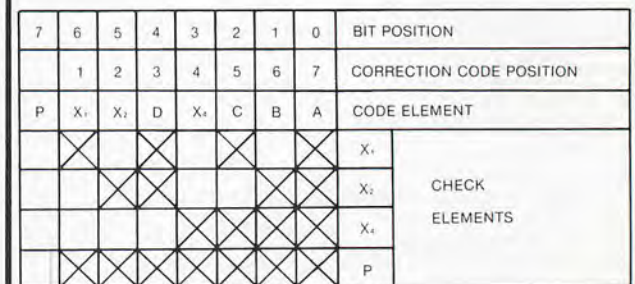
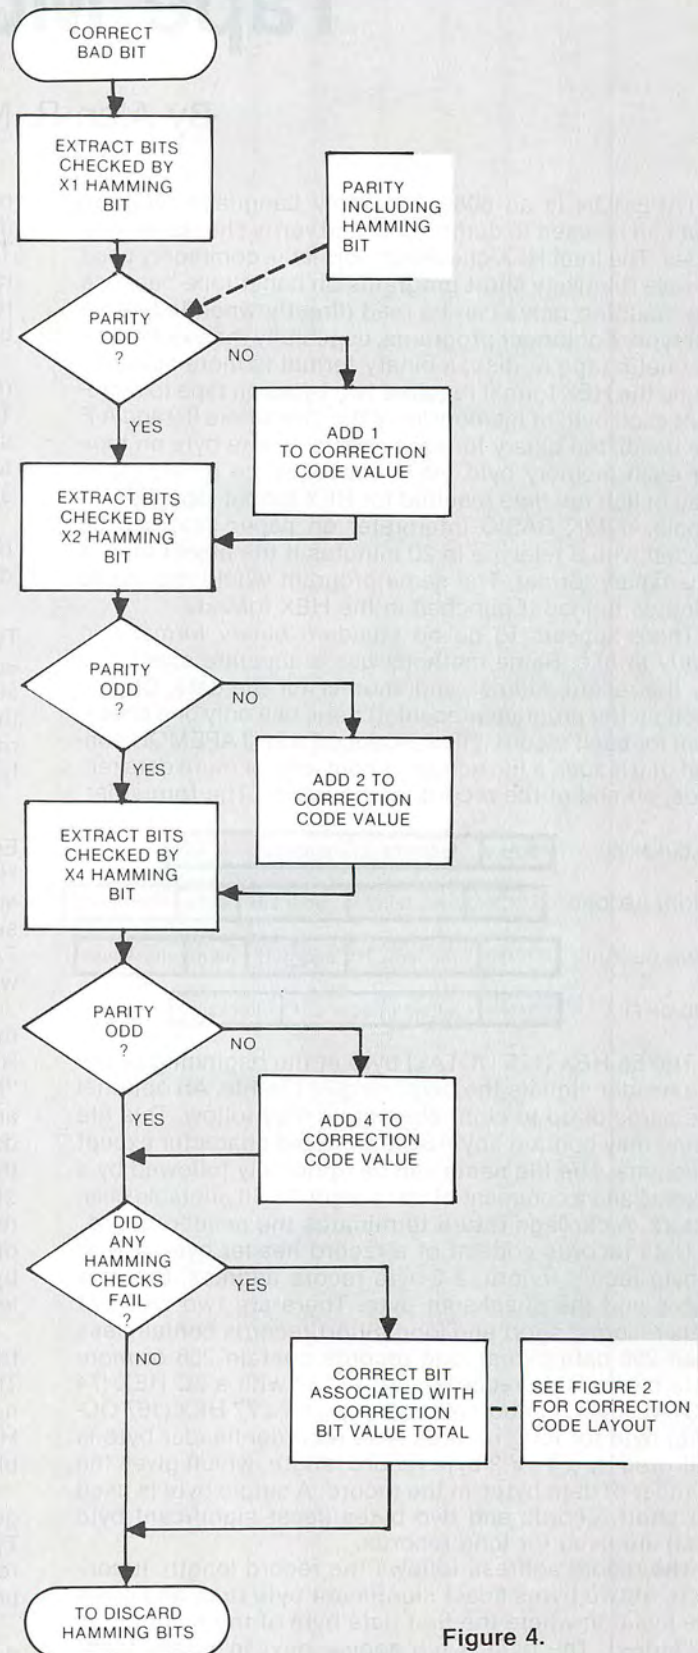

Figure 2.
Figure 4.
To write the data word onto the tape the program will code the data bytes as shown in Figure 2. To illustrate, let's code the 8080 CALL instruction (315) as it would be done by this Hamming program.
parity to bits 0, 2 and 3. This can be seen by examining Figure 2. Thus for our example "315", $x_1 = 0$. This is because the first word contains bits ABCD which are 1101. $A = 1, B$ is not looks at by X_1 , $C = 1$, and $D = 1$. This is an odd number of ones, so X_1 is made zero to keep the number of ones odd.
In the flowchart there is one process block that needs further explanation that is titled "CORRECT BAD BIT." Refer to Figure 4 for a flowchart of the "CORRECT BAD BIT" routine.
Assume that bit 2 of word 1, of our example, is in error. By going through Figure 4, you will see that the correction code value will equal 5. The program will then "FLIP" the bit associated with correction code value 5 according to Figure 2. Thus whatever the incorrect value was, it is now corrected, and the tape goes on!